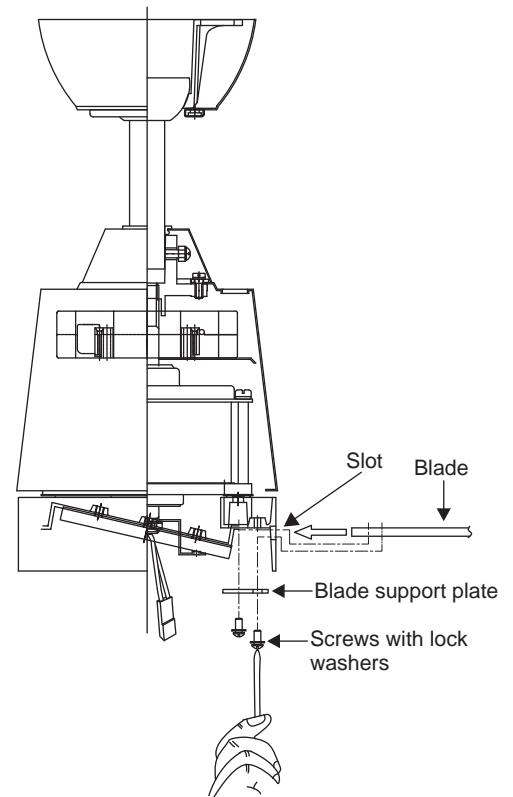

Figure 11
Step 1. Insert the blade through the slot in the housing. Align the holes in the blade, the blade support plate, and the fan motor assembly and secure with a blade attachment screws with lock washers. (Fig. 11)